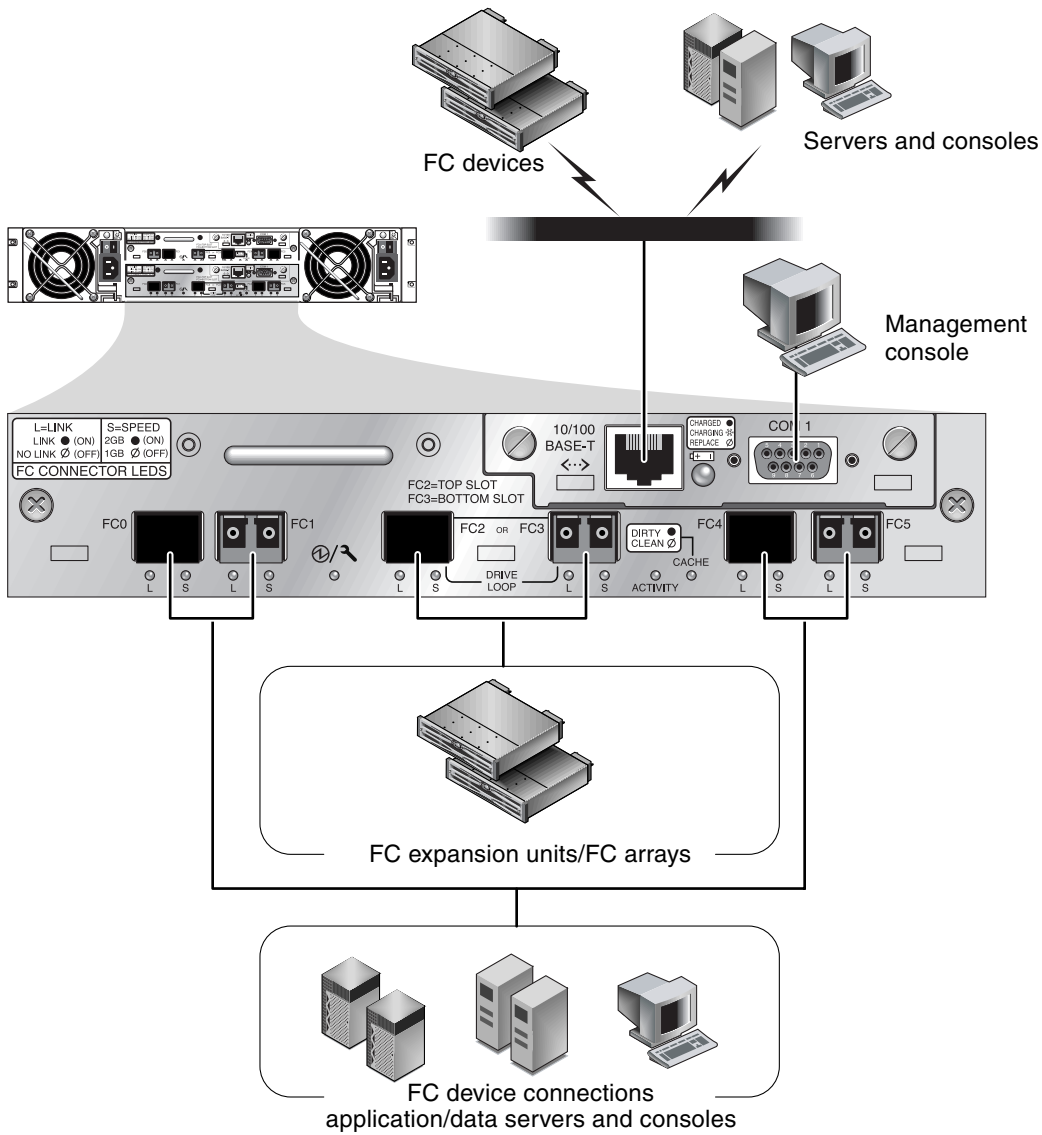
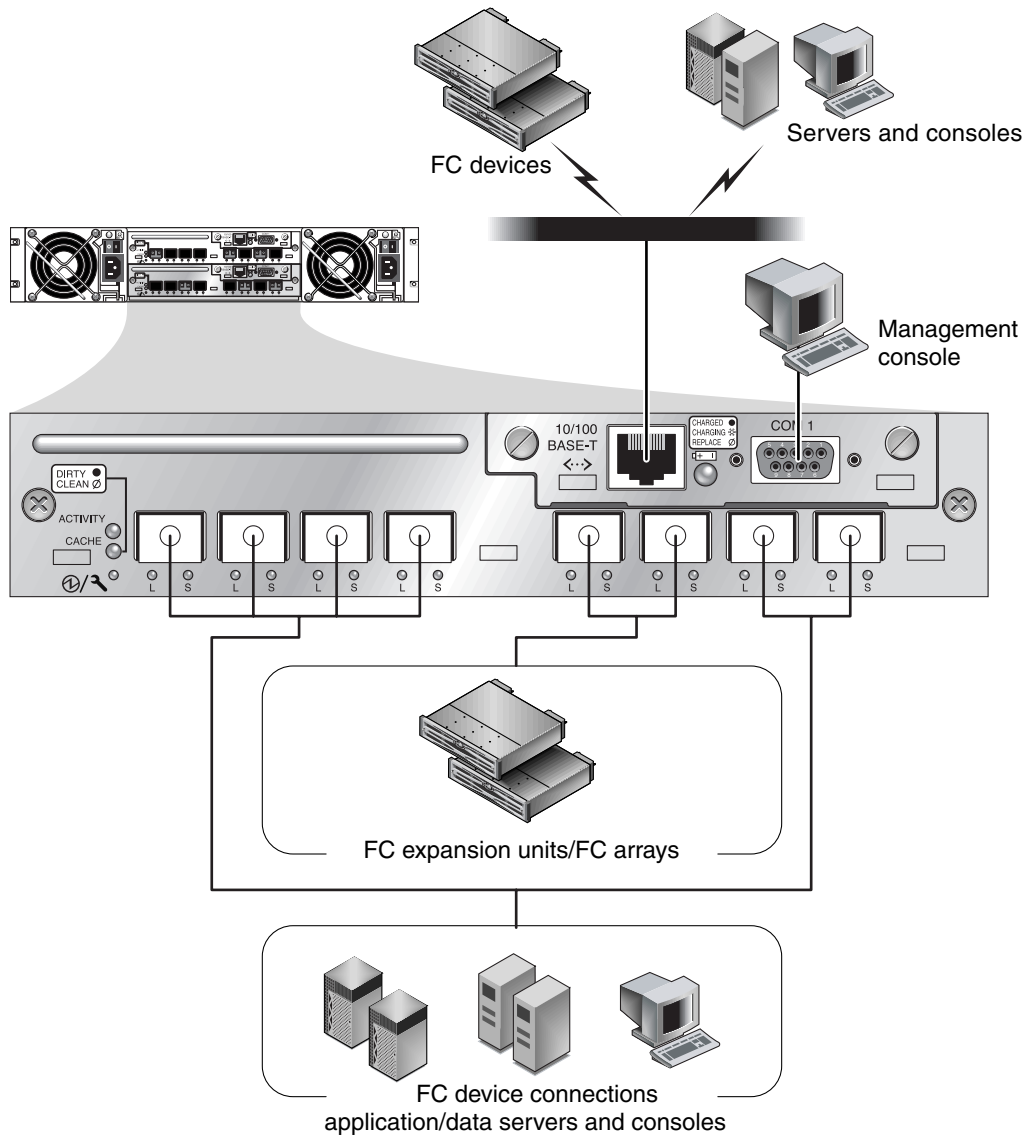

FIGURE 5-1 Hardware Connections on the Back of a Dual-Controller Sun StorEdge 3510 FC Array
FIGURE 5-2 Hardware Connections on the Back of a Dual-Controller Sun StorEdge 3511 FC Array
2. Write down the cabling configuration for the controller-to-host connections and expansion unit connections so that you can reconnect the cables correctly with the new I/O controller module. See FIGURE 5-1 and FIGURE 5-2.